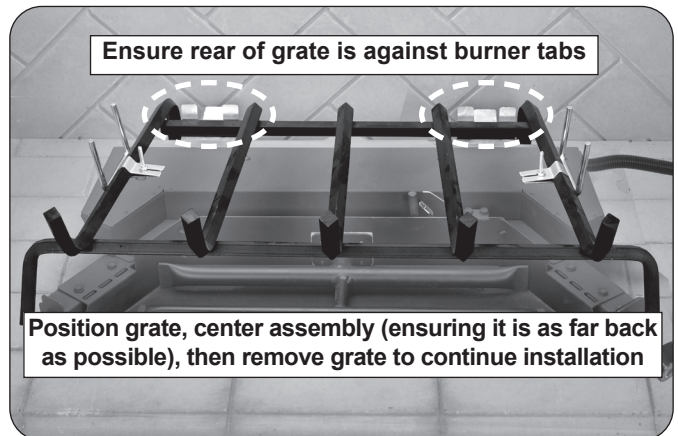

Fig. 18-3 Position grate and center assembly
1. Position the grate over the burner pan. Ensure it is up against the tabs on the rear of the burner, and that the assembly is centered from left to right, and as far back as possible (see Fig. 18-3).